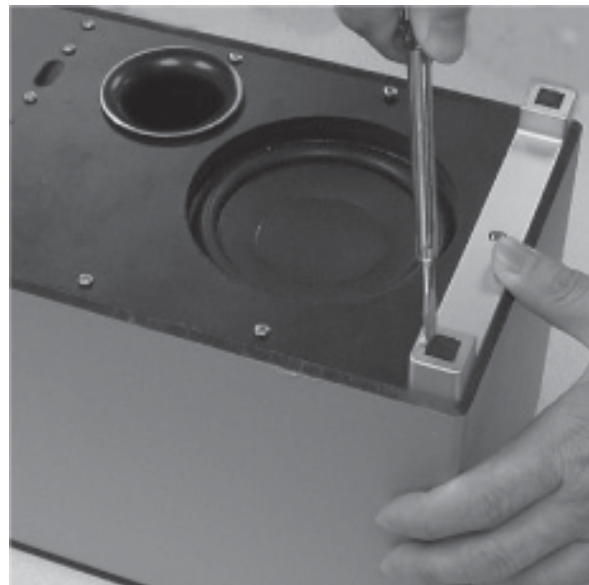

Figure 6
- 1) Use the flat screw driver prize up 4 rubber pads as shown in Figure 6.